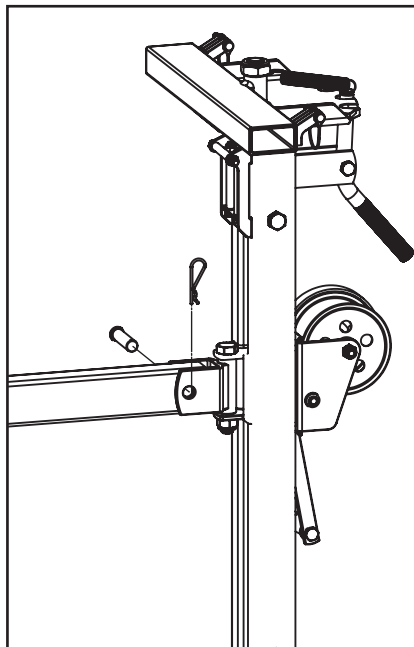

Fig. 23
Step 20: Install the Boom Assembly. Remove the hairpin and pin from the boom swivel joint on the boom column. Place the Boom Assembly (18) arm into the swivel joint and secure it in place using the pin and hairpin (Fig. 23), then route the winch cable over the top pulley.